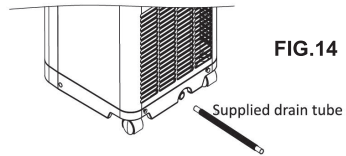

FIG.14
3. Connect the drain tube supplied to the water outlet as shown and locate the other end into a drain. (FIG.14)